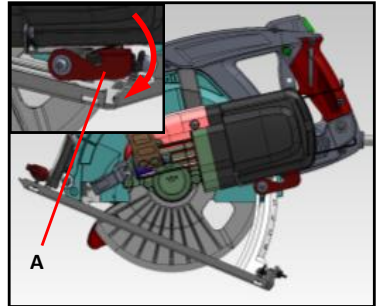

Fig.16
3. Ensure the Lock Lever (A) Fig.16 is tightened securely after the depth adjustment is made.